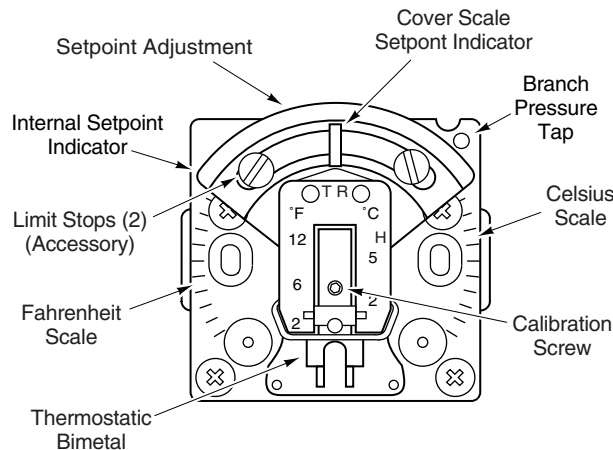

Figure-10 Thermostat Calibration Features and Limit Stop Accessory.
1. Remove the thermostat cover, using a 20-881 thermostat wrench (1/4" hex wrench), and install a 22-138 branch tap gauge adaptor into the branch pressure tap hole (Figure-10).
The internal stop kit, model 20-712, consists of two screws and two nuts (Figure-10). Install this kit as follows: